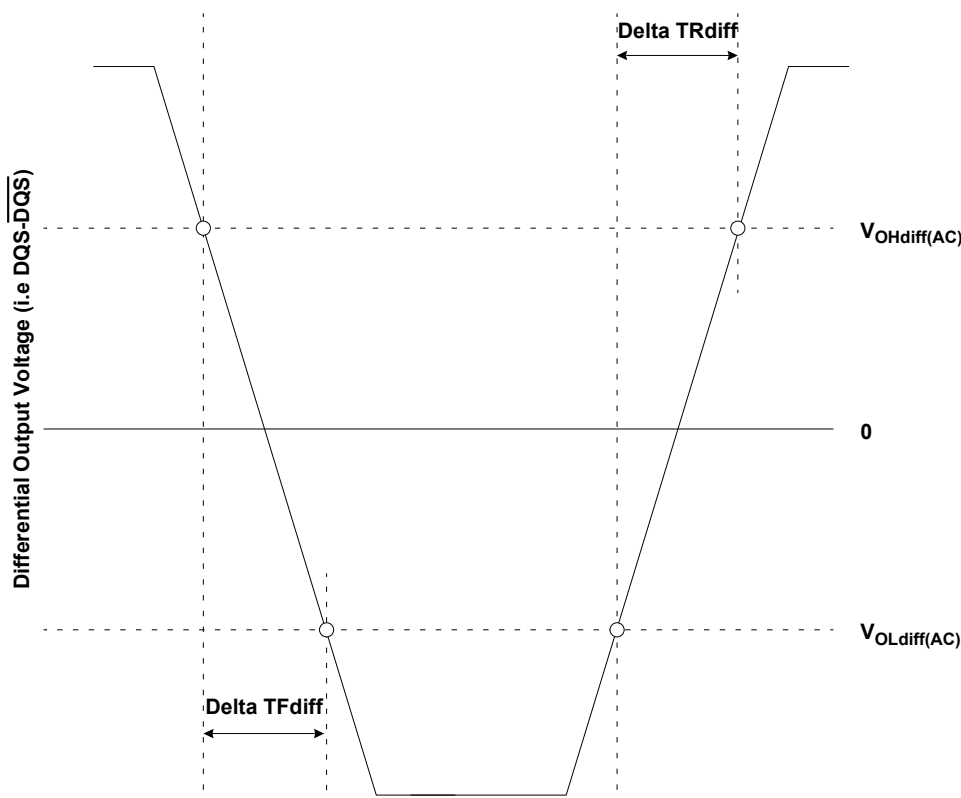

Figure 9. Differential Output Slew Rate Definition
With the reference load for timing measurements, output slew rate for falling and rising edges is defined and measured between VOLdiff(AC) and VOHdiff(AC) for differential signals as shown in Table 30 and Figure 9 Differential Output Slew Rate Definition.